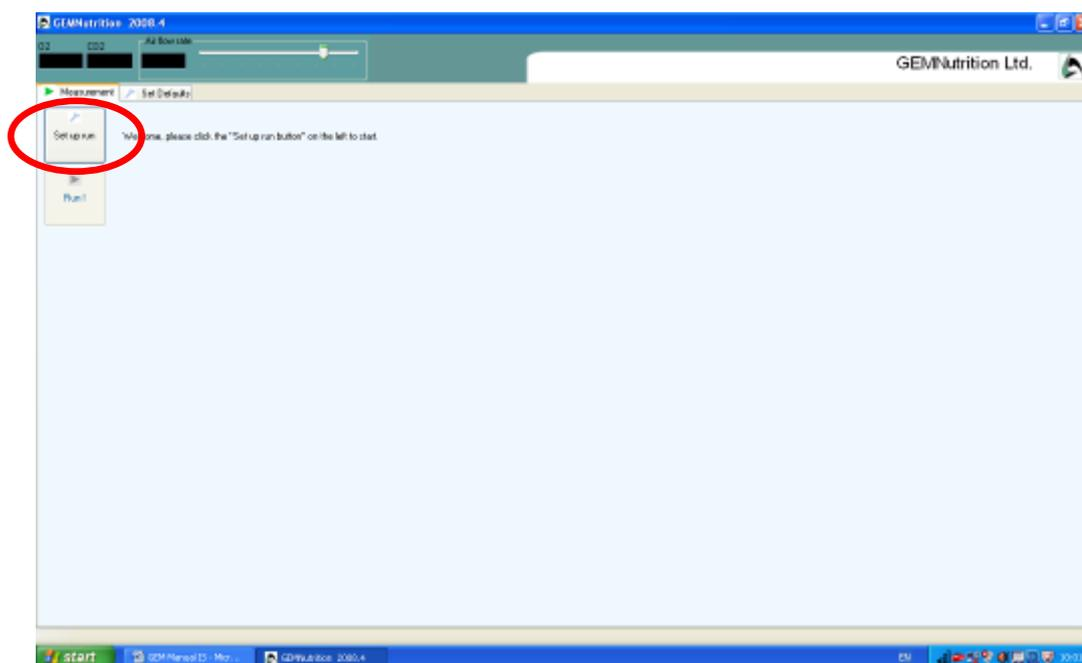

Figure 2. GEM Nutrition software start screen
1. Click on the computer desktop icon to load the "GEM nutrition" program. The open program is shown in figure 2.
2. Before any involvement with the participant, you must calibrate the equipment. Click on "set up run" (circled red in figure 2).